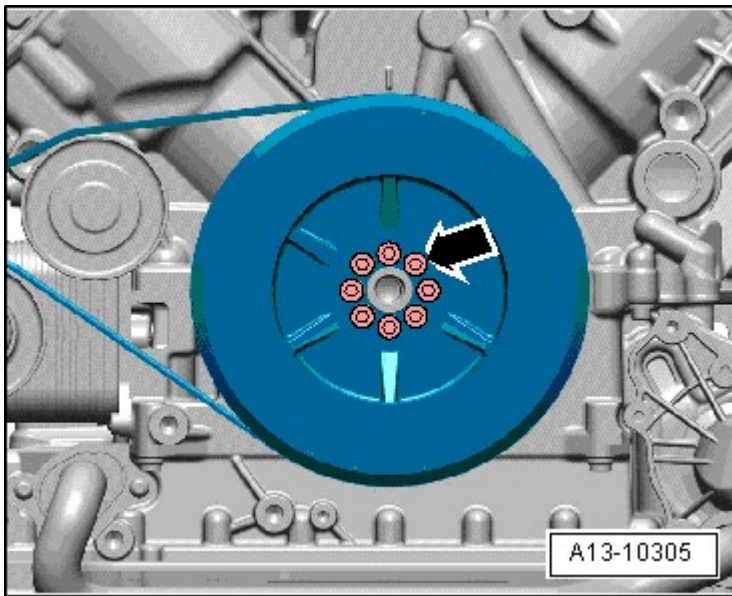

Fig. 7: Loosening Mounting Bolts On Vibration Damper
- Tightening order, refer to **Fig. 7**